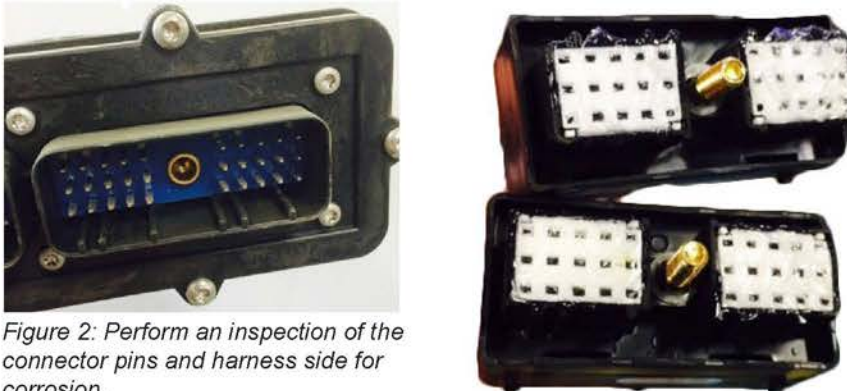

Figure 2: Perform an inspection of the connector pins and harness side for corrosion.
4. Perform an inspection of the connector pins on both the node and harness side of the connectors looking for signs of corrosion (Figure 2).